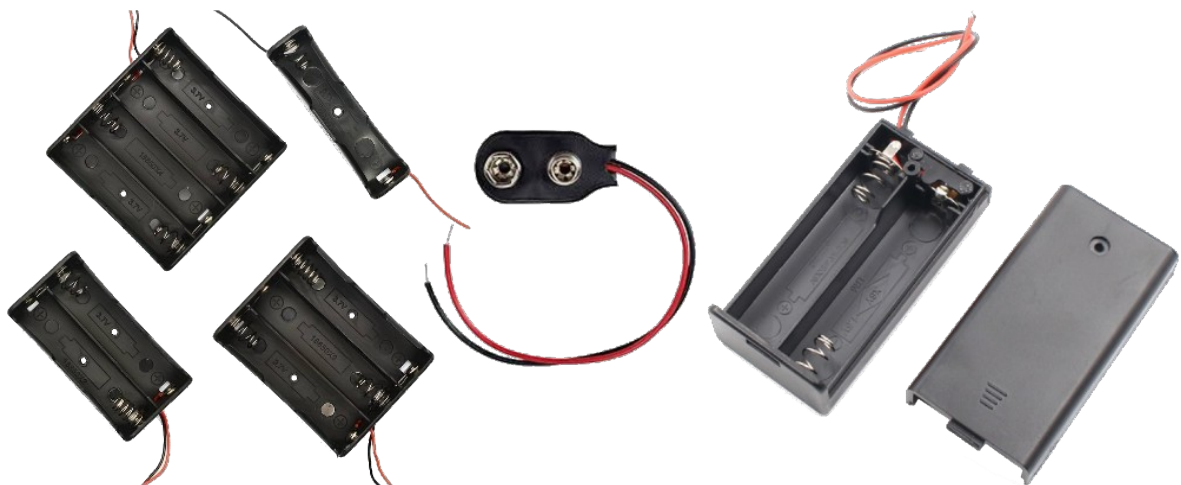

Figure 11: Battery Holders
- a. These are used to make good electrical connections to the battery, while also making it easy to replace the battery when it is flat. See Figure 11.